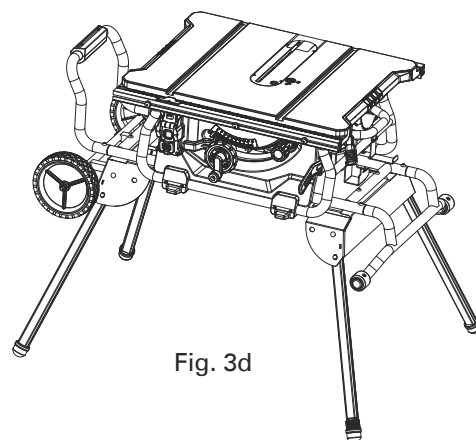

Fig. 3d
- Fig. 3d is the leg stand assembly in an open position.